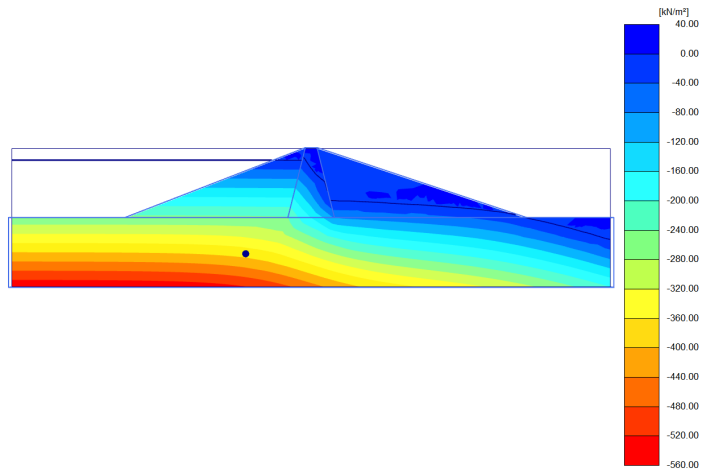

Figure 7.9 Pore water pressure distribution for high reservoir level (Initial phase)
The results of the four groundwater flow calculations in terms of pore pressure distribution are shown in Figures 7.9 to 7.12. Four different situations were considered:
- The situation with a high (standard) reservoir level (Figure 7.9).